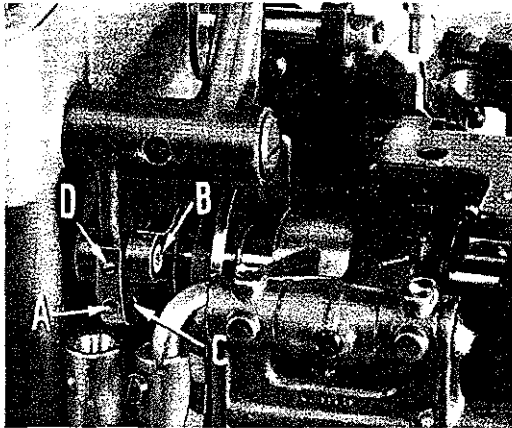

Fig. 13
The upper knife is adjustable for either a high or low knife lift. All standard machines are sent from the factory as low knife lift machines. To change the machines to a high knife lift, loosen screw (A, Fig. 13) and then remove link pin (B) from the bottom hole (C) to top hole and tighten screw (D). When this setting is changed, readjustment of upper knife will have to be made, as described earlier.